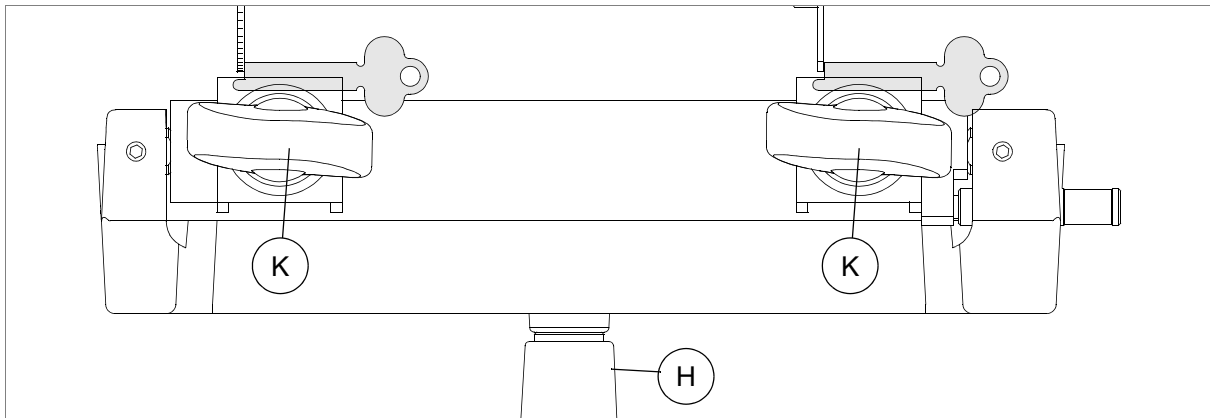

Fig. 51
- 3) Insert the original key into the right-hand clamp, using the end of the bit (towards the tip) as a reference against the tracer point (fig. 51).